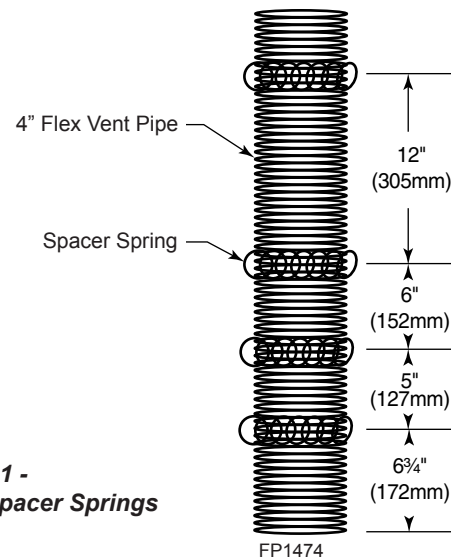

**Figure 31 -
Install the four (4) spacer springs on the 4" flex vent pipe. When installing the spacer springs around the 4" pipe, stretch the spring to approximately 15" (381 mm), wrap the spring around the pipe and interlock the ends of the spacer spring approximately 2" (51 mm). Measure 6¾" (172 mm) from the end of the pipe. Place the next spring 5" (127 mm) from the previously installed spring. Place the next spring 6" (152 mm) from the last spring. Finally place the last spring 12" (305 mm) from the last spring installed. *Figure 31*